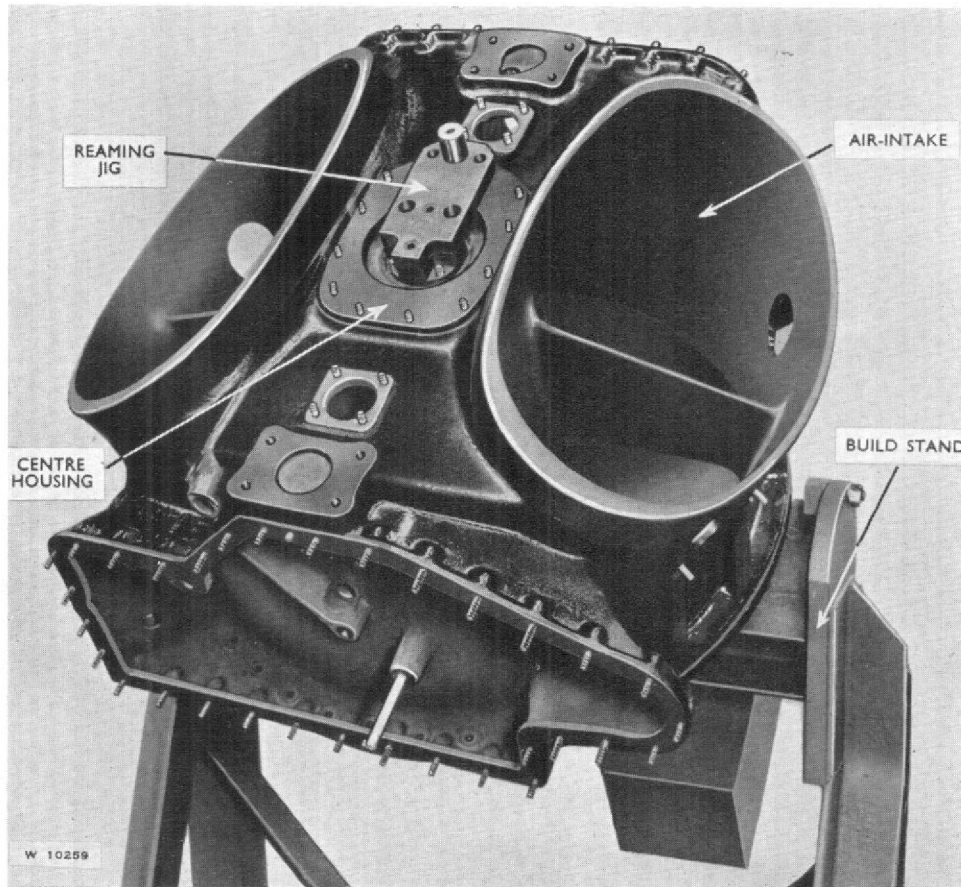

Fig. 4. Reaming jig T.78515 in position on centre housing.
11. Place reaming jig T.78515 (Ghost 48 Mk. 1) or T.79256 (Ghost 48 Mk. 2 and 53 Mk. 1) in position on centre housing, Fig. 4, and locate it with the appropriate locating pin in the dowel hole; three locating pins T.78520, T.78523, and T.78526 are available to suit standard, 0.010 inch, and 0.020 inch oversize holes respectively. Secure the jig in position by fitting four slave $\frac{1}{4}$ inch B.S.F. nuts to the centre housing studs which pass through holes in the jig.